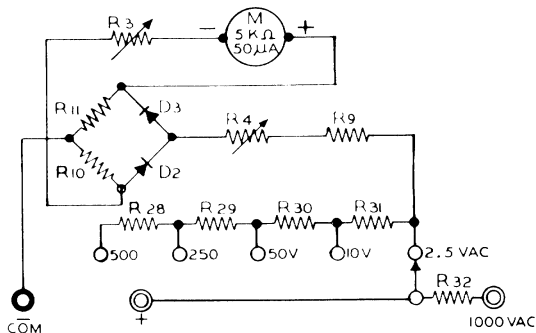

Figure 5-3. Simplified Circuit-AC Volts
5.4.1 The simplified circuit for the AC voltage ranges of the 160 is given in Figure 5-3. The modified full-wave bridge comprising D2, D3, R10, and R11 provides direct current to the metering circuit (M) proportional to the average rectified value of the AC voltage being measured. With the range switch set at 2.5 volts and calibration resistors R3 and R4 properly adjusted, an effective input resist-